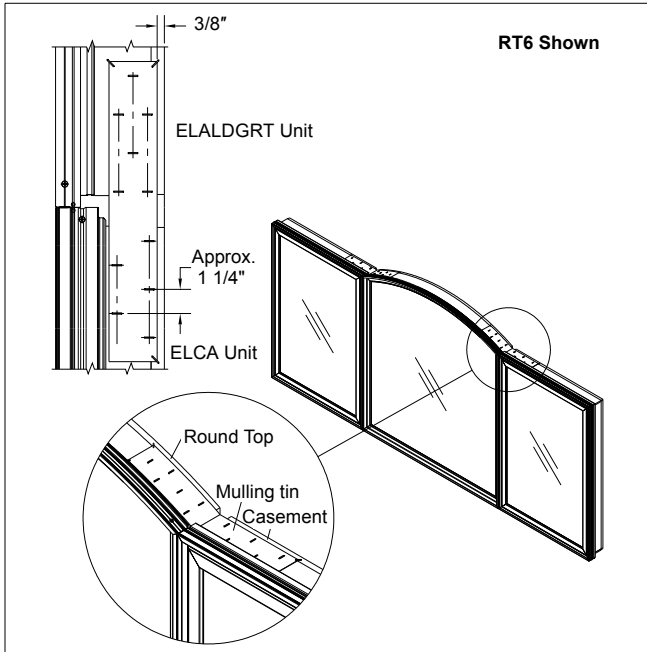

Figure 33
6. Center and attach mulling tin over mullion and fasten securely with 1/2" x 1/2" 16 gauge staples to wood members using the staggered pattern shown in figure 33. On vertical mulling configurations with uneven headers such as an RT2 or RT6, first crease the mullion tin in half to ease installation.